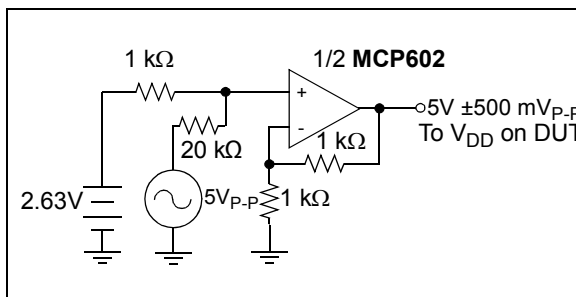

FIGURE 1-4: Power Supply Sensitivity Test Circuit (PSRR).
Note 4: $V_{DD} = 5V$ DC ± 500 mV_{P-P} @ 1 kHz, see test circuit Figure 1-4.
- 4: $V_{DD} = 5V \text{ DC } \pm 500 \text{ mV}_{P-P}$ @ 1 kHz , see test circuit Figure 1-4.
- 4: $V_{DD} = 5V$ DC ± 500 mV_{P-P} @ 1 kHz, see test circuit Figure 1-4.